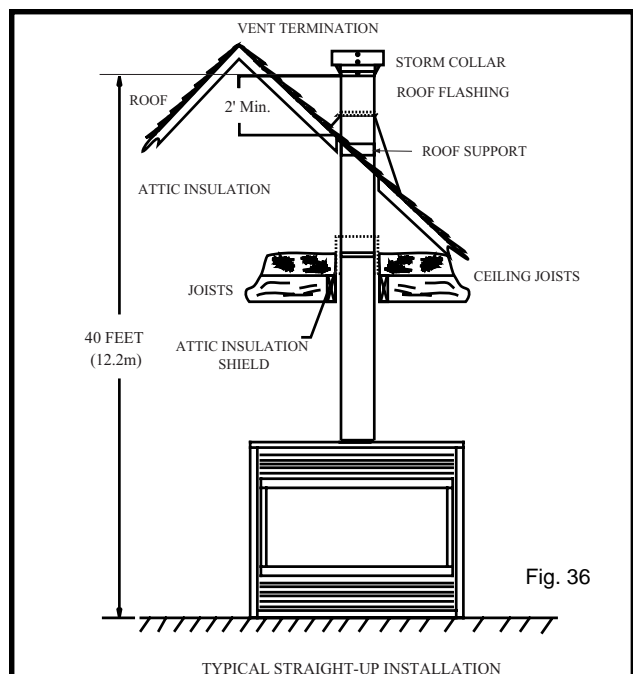

Fig. 36
The minimum height of the vent above the highest point of penetration through the roof is 2 feet. See Fig. 36.
8. Install appropriate pipe sections until above the flashing. (See Fig. 36 for #'s 7, 8 and 9).
10. Add additional vent lengths for proper height. (Fig. 36)